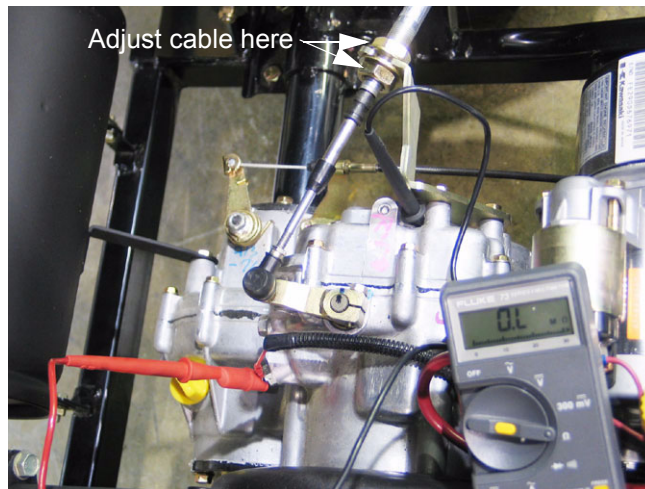

Figure 4.22
- 4.22. Adjust the jam nuts as necessary so that the contacts in the neutral switch open when the gearshift lever is moved an equal distance in the direction of forward and reverse gear positions. See Figure 4.22.